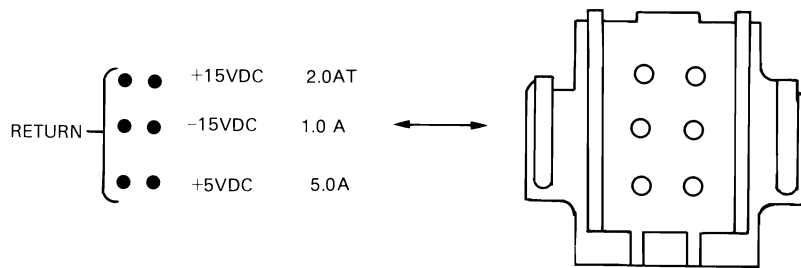

Figure 4-1. Rear Panel Power Connections
- b. Connect power supply to the 1345A and turn on power. (See figure 4-1 for power connections.)